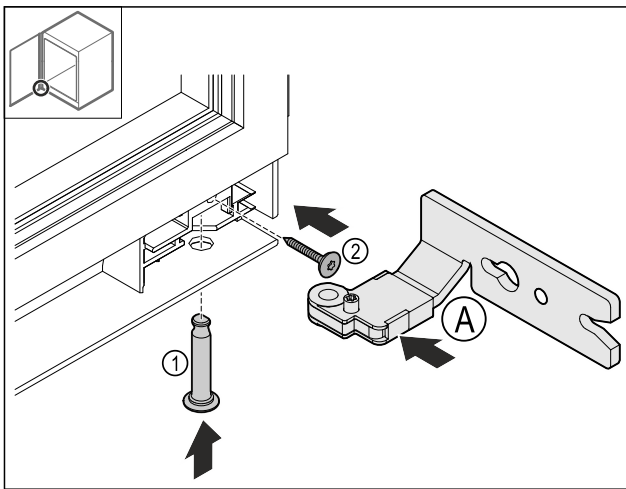

Fig. 24
- Insert the bottom hinge Fig. 24 (A).
- Insert the pin Fig. 24 (1) and hold it.
- Tighten the screw Fig. 24 (2).